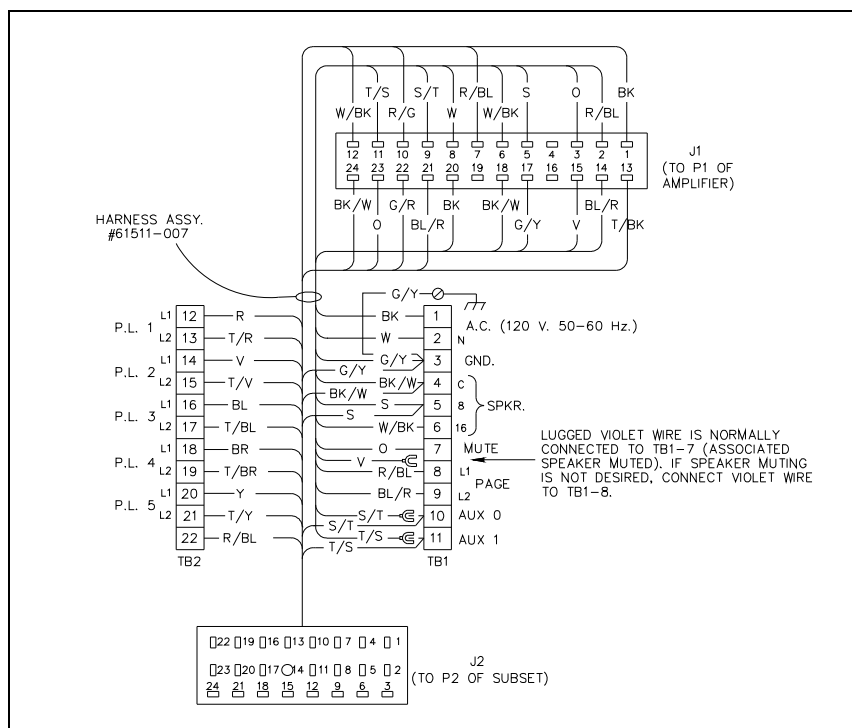

Figure 2. Wiring Details
**Wiring** - Feed the system wiring into the enclosure. Strip the insulation on each conductor of the system cable. Install a ring lug on the ground conductor (GRN/YW wire). The wires must be spade-lugged and connected carefully and completely to the terminal blocks in accordance with the colors indicated in Figure 2. An improper termination may result in diminished station performance.